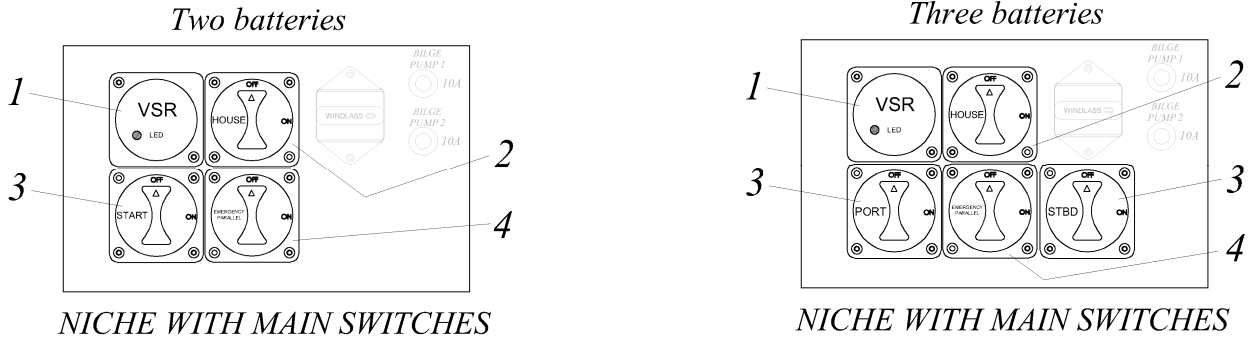

Fig.16
In the Fig.16 you see main switches panels for two or for three batteries, depending on the configuration of your boat. Usually three batteries are installed if your boat is equipped with twin engine. One start battery for each engine (switches marked as “PORT” for the engine on the port side and “STBD” for the engine on the starboard side), one as a house accessory battery (switch marked as “HOUSE”) for higher amperage drawing components.
The panel with the main switches is located in the niche (starboard side, steering console). You can control your batteries with the main switches. Set the main switch knob (2) or (3) Fig.16 to the ON position. This will turn on the selected battery. Set the main switch (2) or (3) to the OFF position. This will turn off the selected battery. To start the engine(s) the battery main switches (2), (3) set at the ON position.